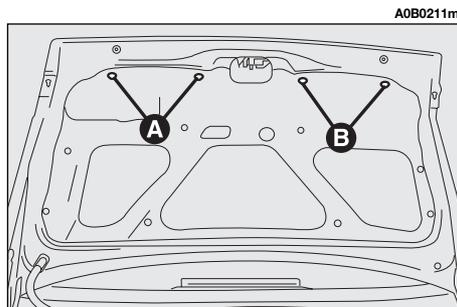

fig. 41
– Slacken the screws (**A or B-fig. 41**) fastening the boot trim in correspondence with the light concerned.